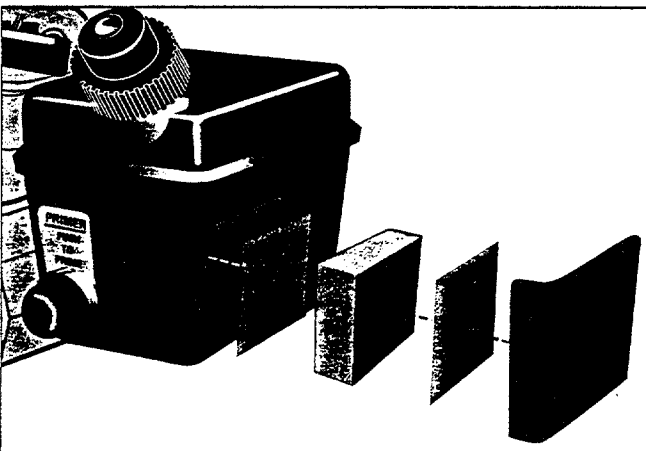

Figure 13: The engine air filter assembly.
1. Remove the air cleaner outer cover by taking out the two cover screws shown in Figure 13. Put cover aside. Remove the thin, outer flocked filter, the thick foam filter, and the thin, inner flocked filter. (Your assembly may have one or two thin flocked filters which need to be cleaned.) Clean the body of the air filter housing and the cover with a clean rag.